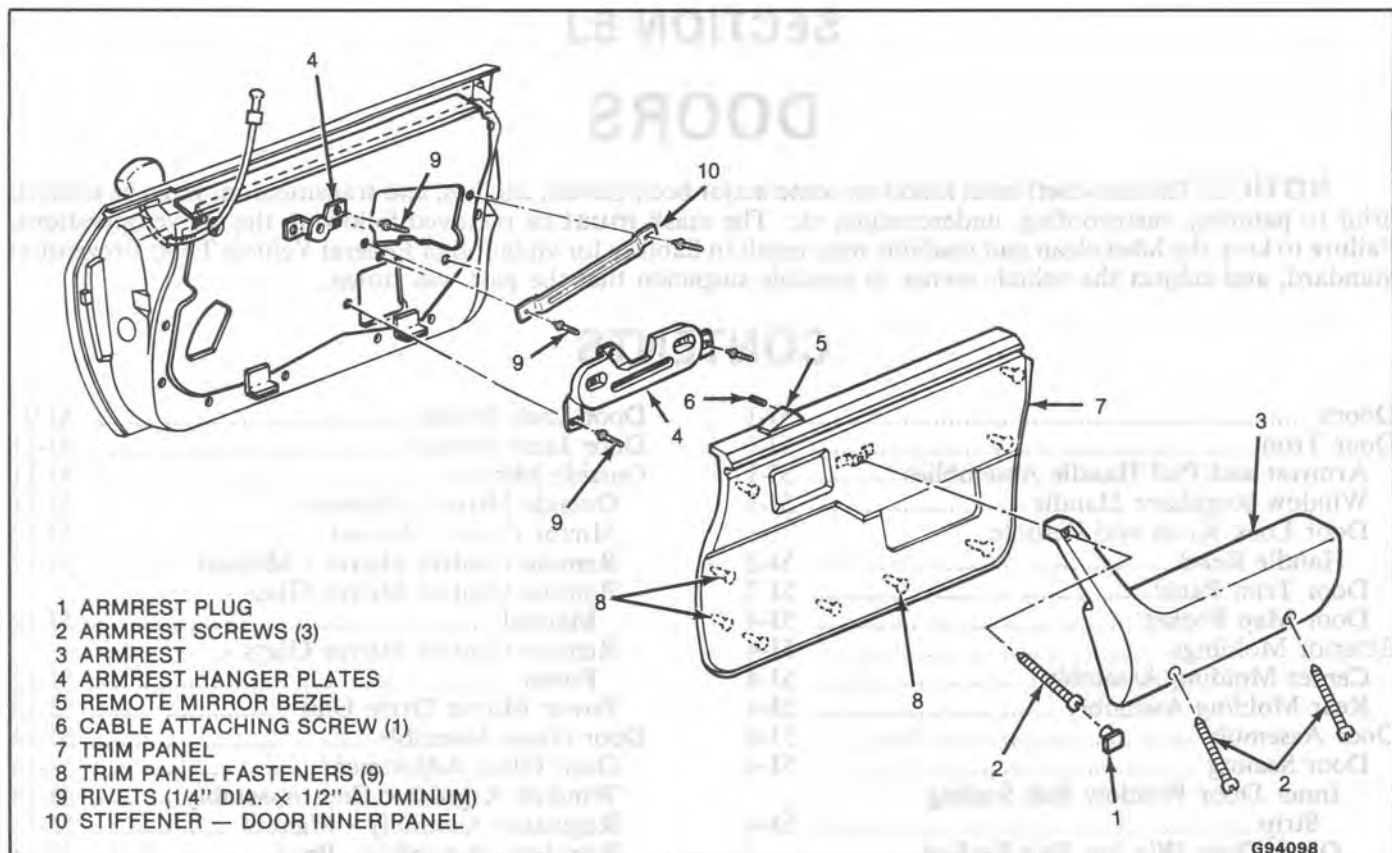
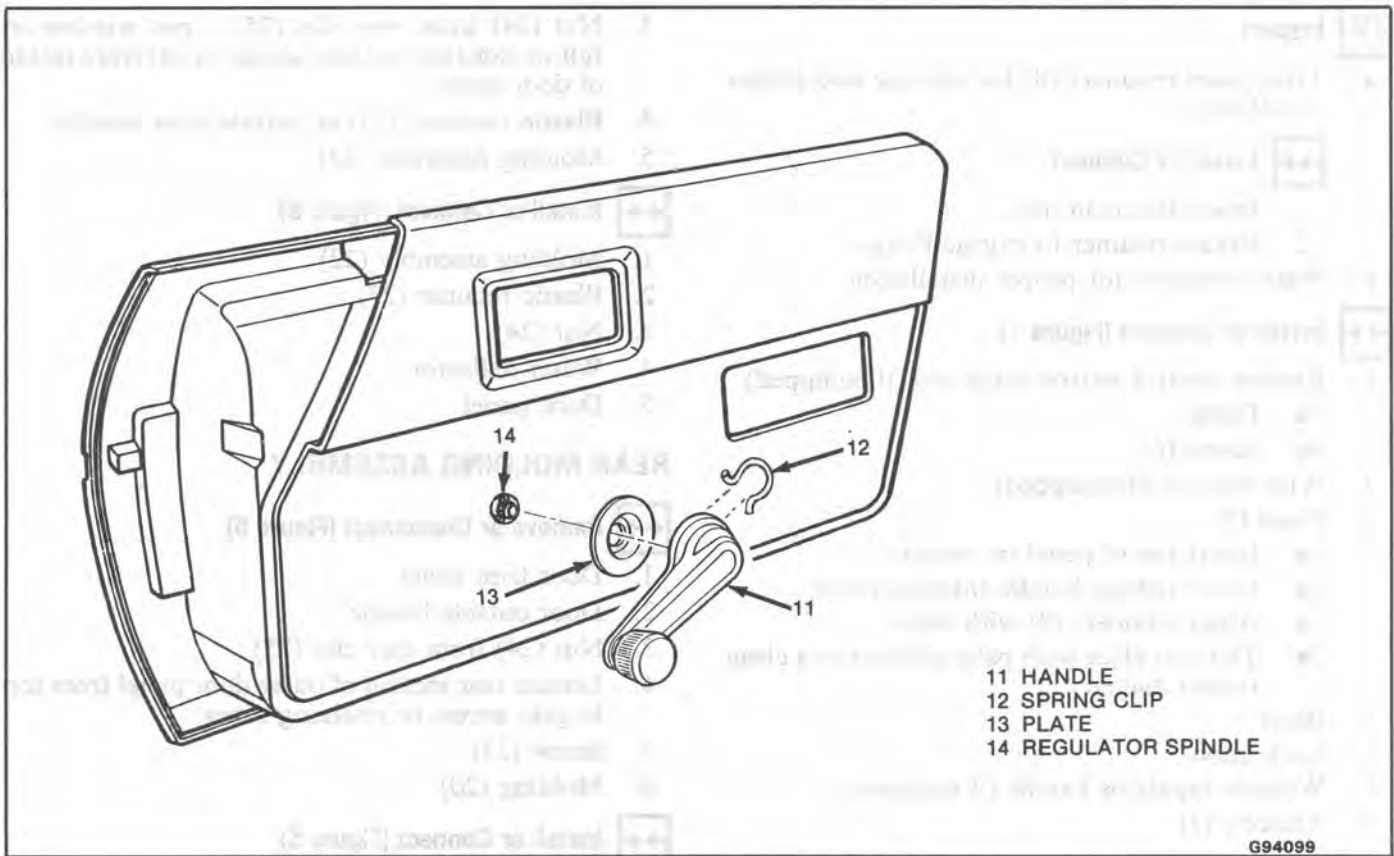
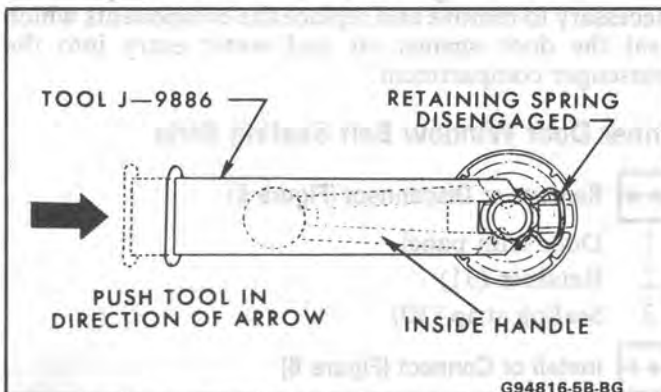
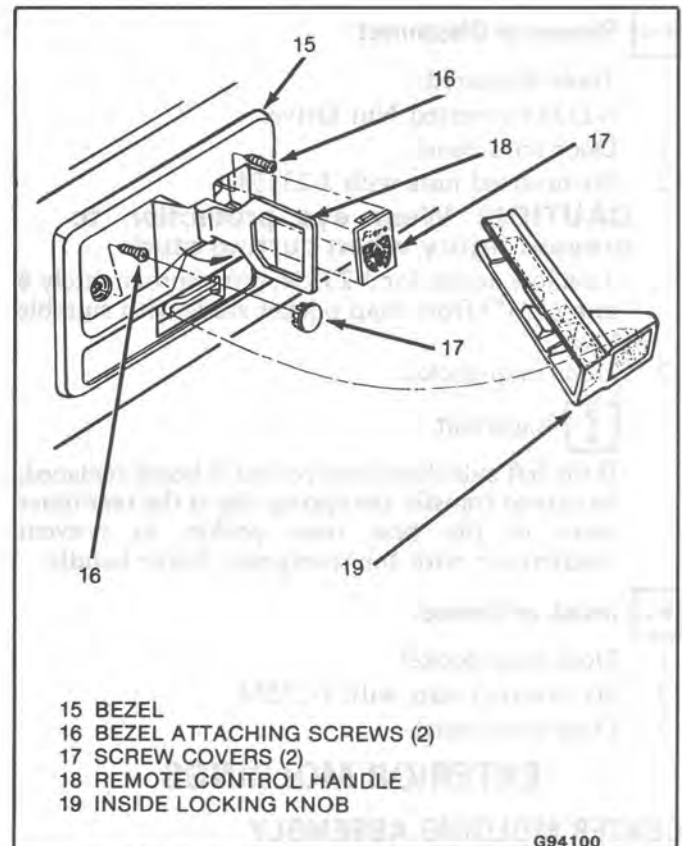

Fig. 1-Door Trim Panel and Armrest
Fig. 2-Window Regulator Handle
Fig. 3-Removing Window Regulator Handle
Fig. 4-Remote Control Handle and Lock Knob
Remove or Disconnect (Figure 1)
Install or Connect (Figure 1)
**WINDOW REGULATOR HANDLE****↔ Remove or Disconnect (Figures 2 and 3)**
1. Clip (12)
- Insert J-9886 between handle and bearing plate (13). Tool should be in same plane as handle (Figure 2).
- Push tool as indicated in Figure 3.
2. Handle (11)
3. Plate (13)
**→→ Install or Connect (Figures 2 and 3)**
1. Plate (13)
2. Clip (12) on handle
3. Handle (11)
**DOOR LOCK KNOB AND REMOTE HANDLE BEZEL****↔ Remove or Disconnect (Figure 4)**
1. Covers (17)
2. Screws (16)
3. Lock knob (19)
4. Remote handle bezel (15)
**→→ Install or Connect (Figure 4)**
1. Remote handle bezel (15)
2. Lock knob (19)
3. Screws (16)
4. Covers (17)
**DOOR TRIM PANEL****↔ Remove or Disconnect (Figure 1)**
- Trim panel retainers (8) for damage and proper installation.
**Install or Connect (Figure 1)**
- Screw (6)
3. Panel (7)
- Align retainers (8) with holes